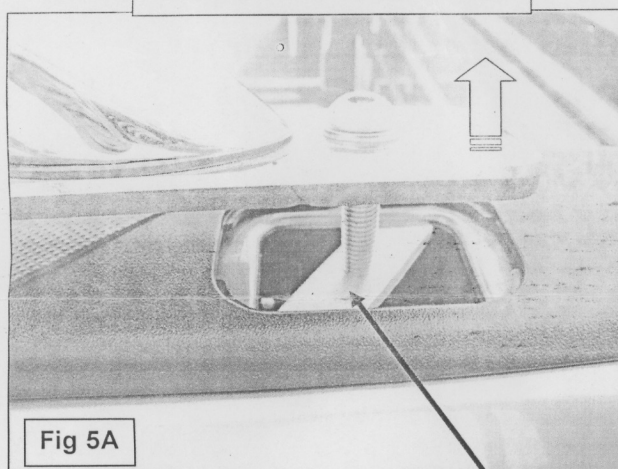

Fig 5A
5. To tighten the Threaded Plates, start at the front and pull up on the Bed Rail to hold the plate in place and centered across the pocket. Keep pulling up on the Bed Rail to prevent the Plate from moving/rotating while tightening the Mounting Bolt. Tighten the Bolt until it is snug but do not fully tighten at this time, (Figure 5A & 5B). Repeat this Step to tighten the rear Bolt on the Bedrail. Once properly centered and aligned, fully tighten both Mounting Bolts.